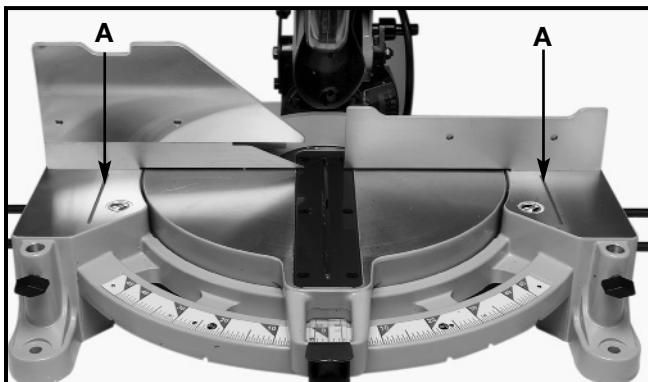

Fig. 17
WARNING THE AREA INSIDE THE TWO RED LINES (A) FIG. 17 ON THE TABLE IS DESIGNATED AS A HAZARD ZONE. NEVER PLACE YOUR HANDS INSIDE THIS AREA WHILE THE TOOL IS BEING OPERATED. ALWAYS USE A CLAMP TO SECURE SHORT WORKPIECES.
4. If the size of the workpiece causes your hand to be inside the table hazard zone (see section "**TABLE HAZARD ZONE**" SEE FIG. 17), use a clamp to secure the workpiece.